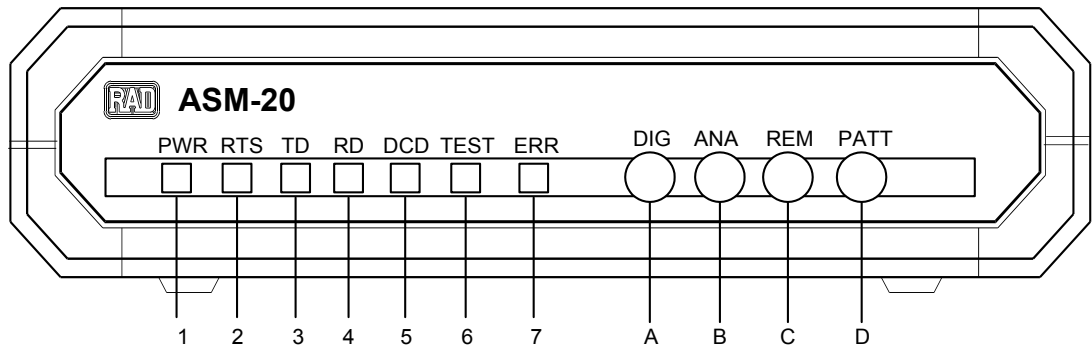
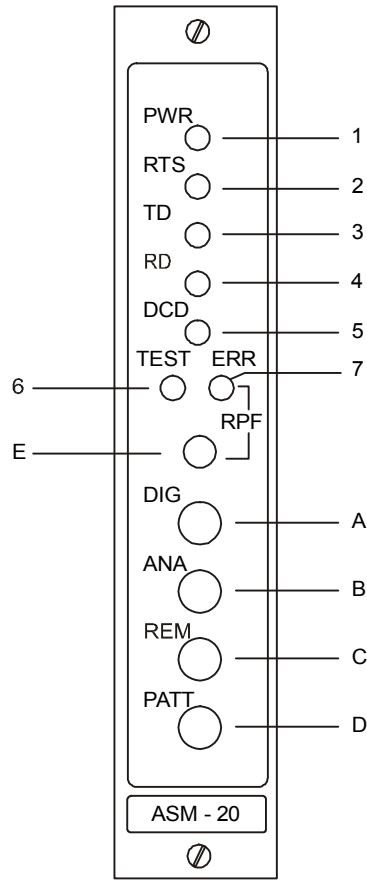
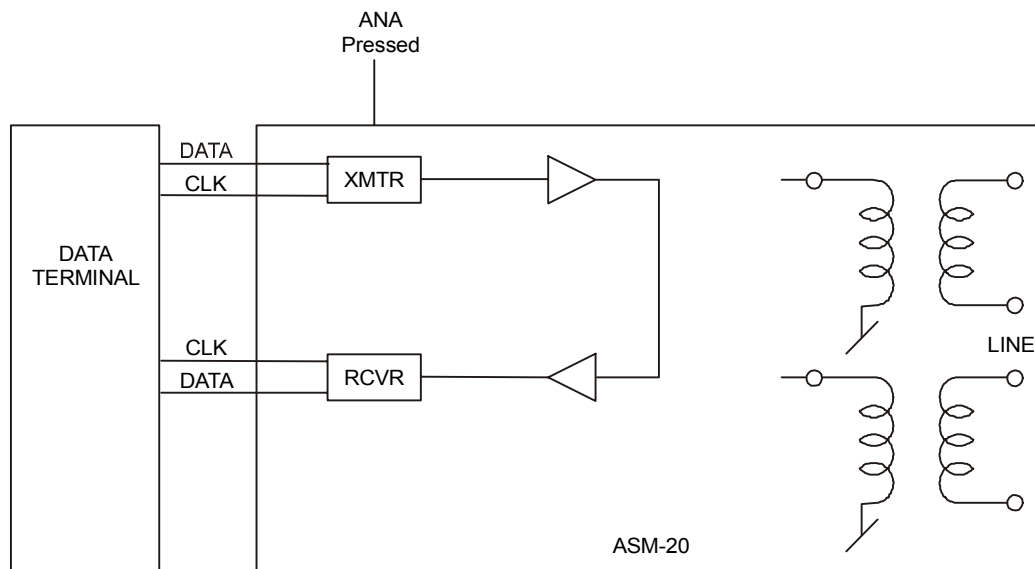

Figure 3-1. ASM-20/SA Front Panel
Figure 3-2. ASM-20R Front Panel
Figure 4-3. Local ASM-20 in Analog Loopback
All controls (push button switches) and LED indicators are located on the ASM-20 front panel. Their functions are described in Table 3-1 and correspond to the identification numbers in Figure 3-1 and Figure 3-2.
1. Press the ANA (Analog Loopback) push button on the front panel (see Figure 3-1). This test can also be activated via the pin on the DTE interface. See Table 2-2 for more information. The TEST LED should turn on. ASM-20 transmit output is now connected to its own receiver (see Figure 4-3).